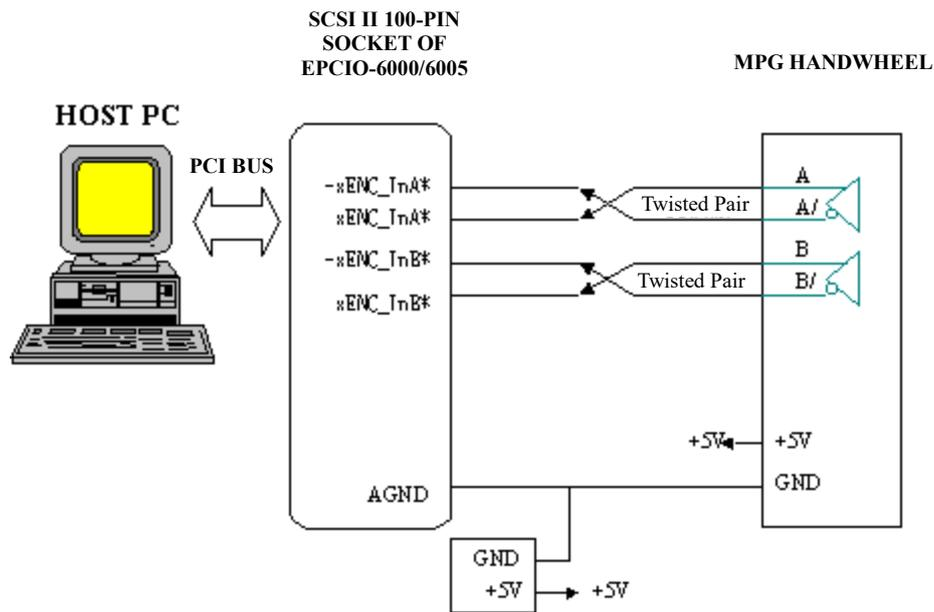
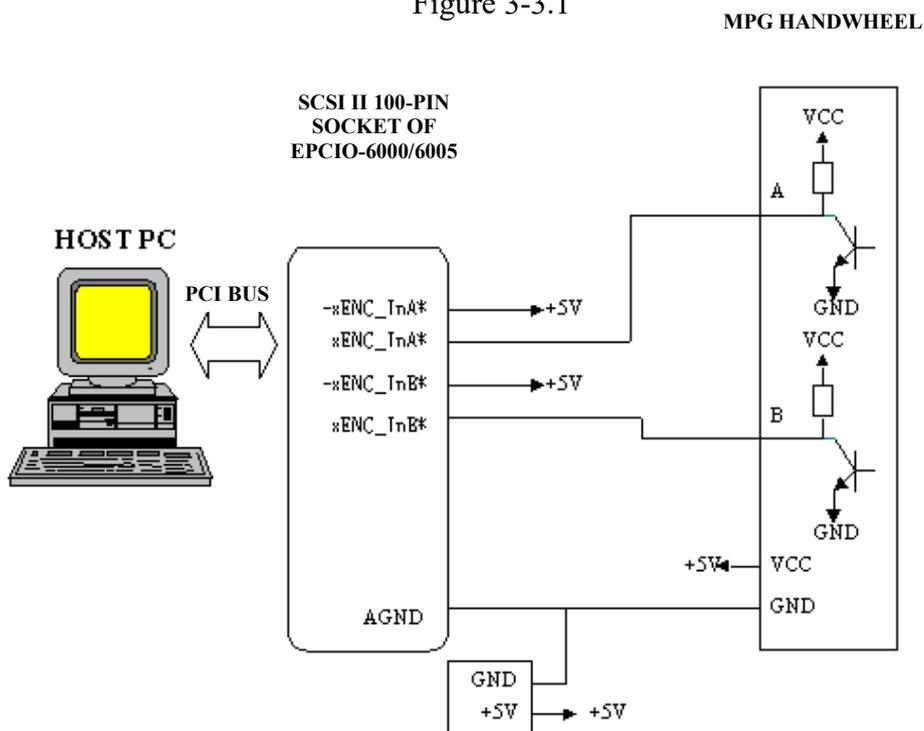

Figure 3-3.1
Figure 3-3.2
3.3.1 Hardware wiring (refer to Section 3.1 Basic Installation and the following description). Taking EPCIO-6000/6005 for example, the following two diagrams show how EPCIO-6000/6005 is connected to a line driver output handwheel (Figure 3-3.1) and a voltage output handwheel (Figure 3-3.2).